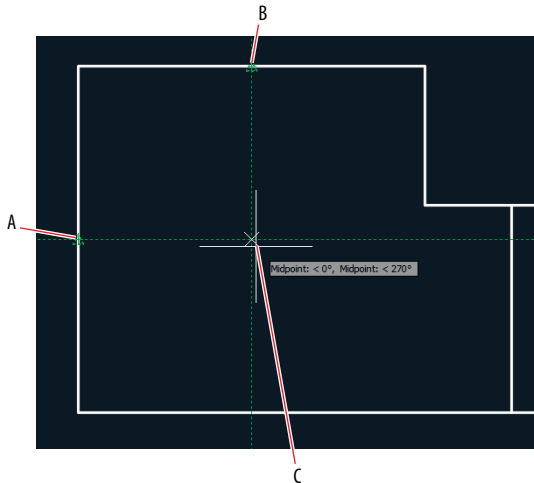

FIGURE 3.15 Locating a circle's center point with object snap tracking
3. Move the cursor over point A in Figure 3.15. When the running midpoint snap marker appears, move the cursor horizontally to the right to establish the first tracking line. Do not click yet.
4. Move the cursor over point B in Figure 3.15, and wait for the Midpoint marker to appear. Move the cursor down vertically to establish the second tracking line. Again, do not click yet.